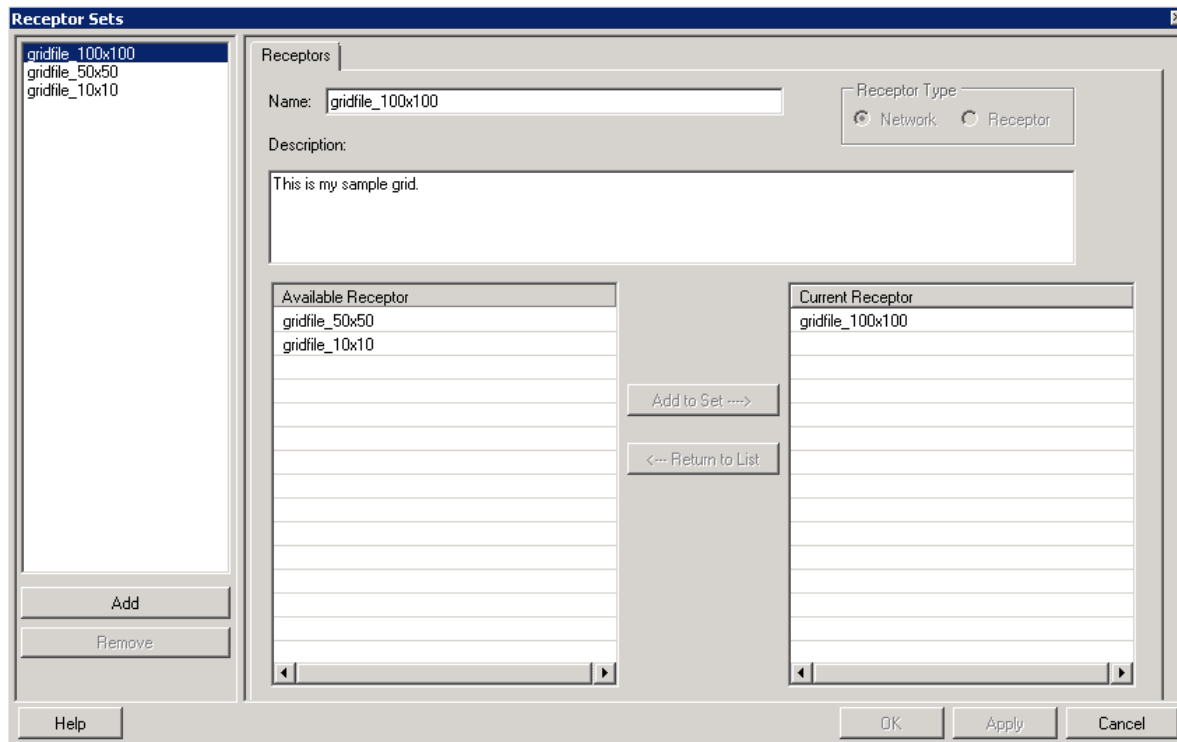

Figure 5-24 Receptor Sets Dialog Box
1. From the menu bar select *Setup, Receptor Sets* to open the *Receptor Sets* dialog box (Figure 5-24).